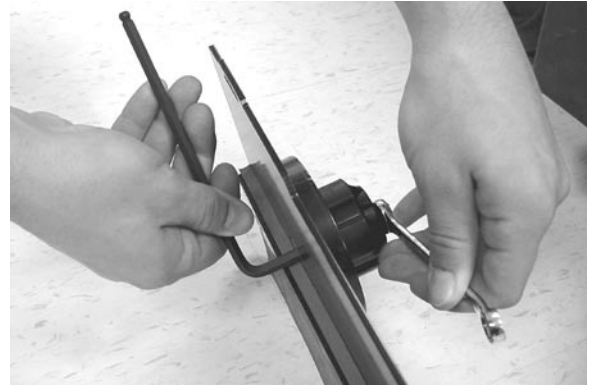

FIG. 25
4. Hold idler hub shaft with 3/8" wrench and loosen Allen head screw with 6 mm Allen wrench (Figure 25).